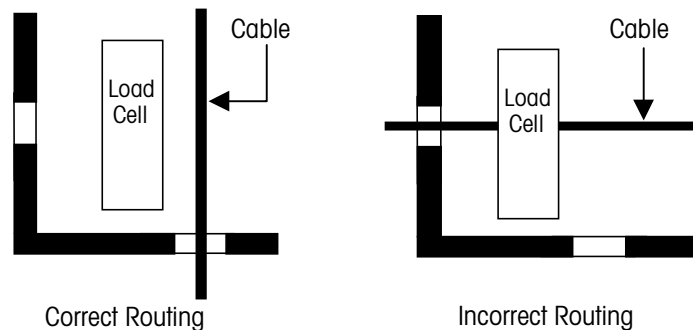

Figure 3-4: Instrument Cable Routing
6. Route the cable as shown in Figure 3-4.